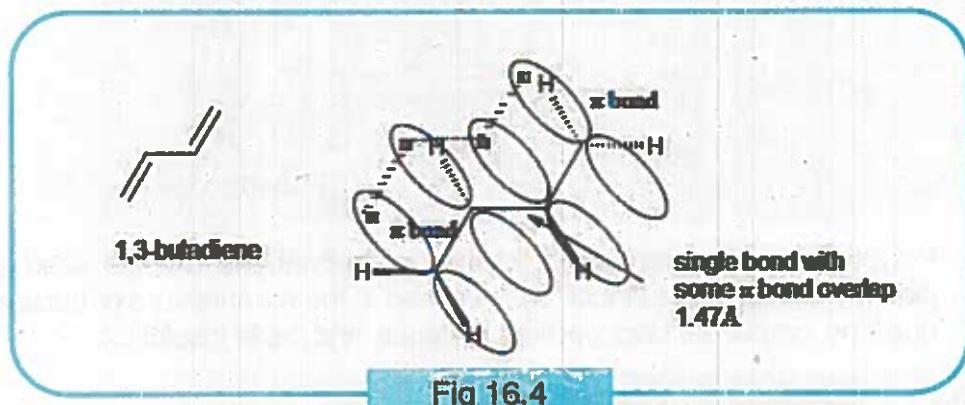

Fig 16.4
Each of the four carbon atom also possess an unhybridized p–orbital, which are perpendicular to the plane of  $\delta$ –bonds. The p–orbitals of the second and third carbon atoms can overlap on either side. Thus all four p–orbitals overlap to form a large  $\pi$  molecular orbital (MO) (Fig 16.4). Each pair of  $\pi$  electrons is thus attracted not by two, but all four carbons. We can say that the  $\pi$  electrons are delocalized. The delocalization of  $\pi$  electrons is responsible for greater stability of 1,3–butadiene. The C–C single bonds in 1,3–butadiene are shorter ( $1.48\text{ \AA}$ ) than the normal